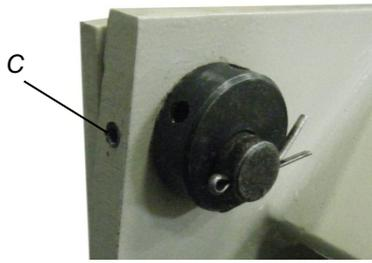

Figure 6-8
2. Loosen the setscrews (C) at the back of the hold down assembly (fig. 6-8).
4. When the fingers are at the correct setback distance and parallel to the clamp block edge, tighten the setscrews (C).